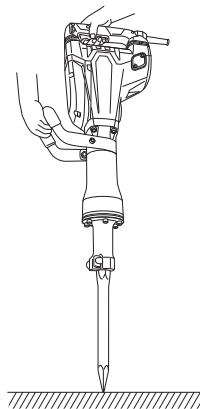

Fig. 5
3. Operate the tool by utilizing its empty weight. The performance will not be better even if the tool is pressed or thrust forcibly against the work surface. Hold the tool with a force just sufficient to counteract the reaction (**Fig. 5**).